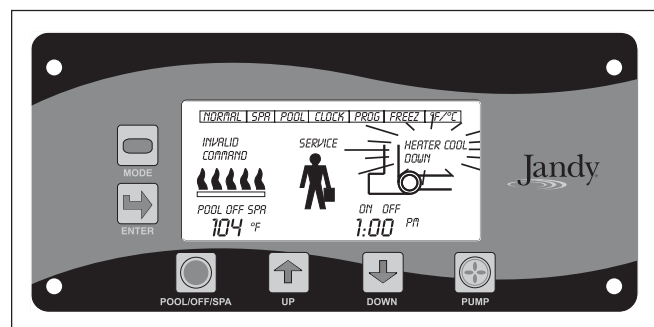

Figure 20. LJ controller display
1. Turn the pump 'OFF' by pressing the PUMP key so that the display shows that the pump is 'OFF'. If the heater was running it should go off immediately and the pump will run in the 'COOL DOWN' mode for 5 minutes. If the heater has been running within the last 5 minutes, the pump will continue to run for the remainder of the 5 minute cool down period (see Figure 20).